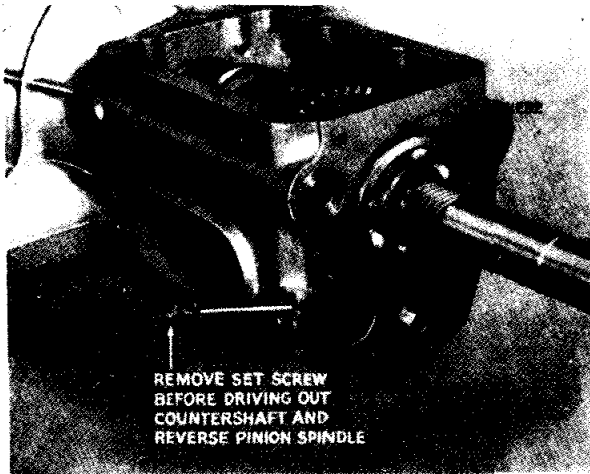

Fig. 7 Countershaft and Reverse Locating Set-screw partially withdrawn.
- (h) Withdraw the countershaft locating setscrew as shown in Fig. 7.
- (vi) Third and top speed synchro unit with the short boss of the synchro hub towards the mainshaft circlip or rear of gearbox as shown in Fig. 3. The mainshaft and ball race can then be driven into the gearbox casing, positioning the gap of the circlip on the outer ring of the bearing in line with the atmosphere hole in the casing as shown in Fig. 7.